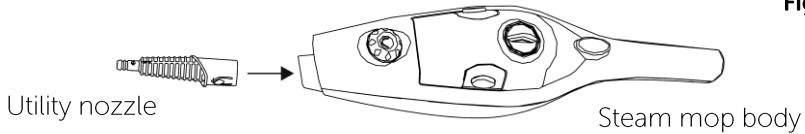

Fig. 4
3. Remove the floor head from the body of the steam mop, fit the utility nozzle in its place and push together (fig. 4). A click will be heard when the utility nozzle is correctly engaged.